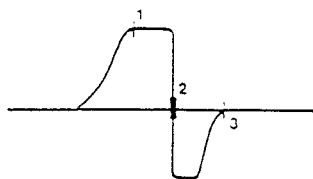

Fig. 10 AFC Response Curve
- (1) Carry out AFC adjustment after P.I.F. adjustment is made.
- (2) Reconnect the vertical input of the sync. oscilloscope with 1 Mohm resistor in series to Pin 5 of IC101.
- (3) Adjust L105 for the AFC waveform as shown in Fig.10.